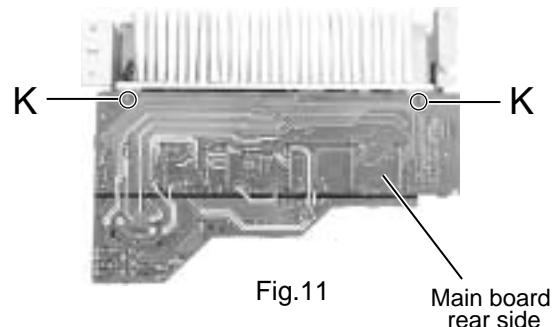

Fig.11
■ Removing the Heat sink (See Fig.11 to 13)